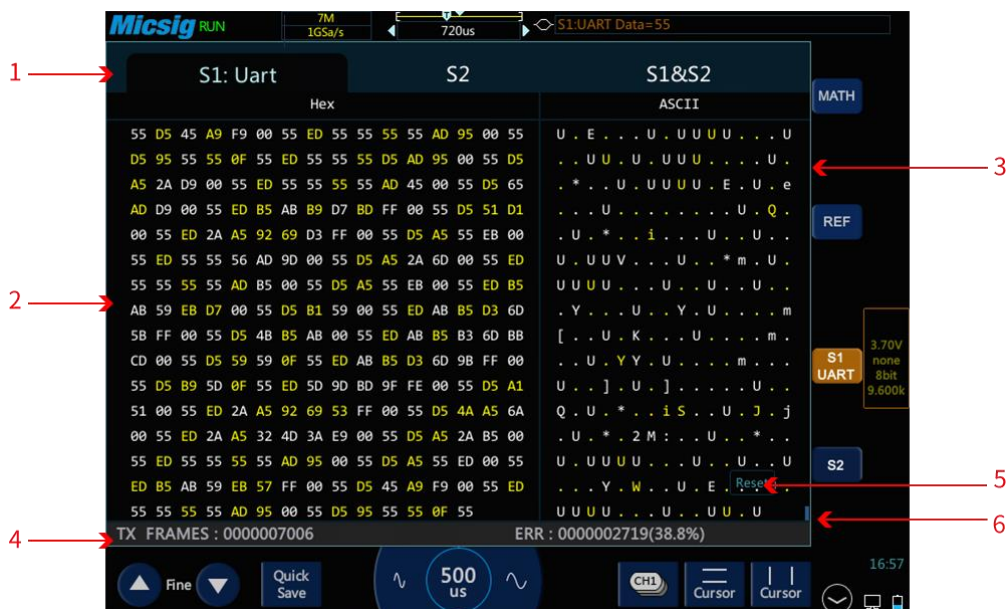

Figure 12-8 UART Text Interface
- (1) Tap S1 to open the decode channel, and click S1 again to open the bus configuration menu;
- (2) Select the bus type as “UART”, click “Ch1”, “Idle High”, “Check None”, “8bit”, “19.20kb/s”, display “hexadecimal”, then close menu;
- (3) Open the trigger mode setting menu, click “Data”, enter 55 manually, and press “enter” to confirm;
- (4) Adjusting the threshold level according to the amplitude level of signal may make the signal to be stably triggered. The UART trigger graphic interface is shown in Figure 12-8: